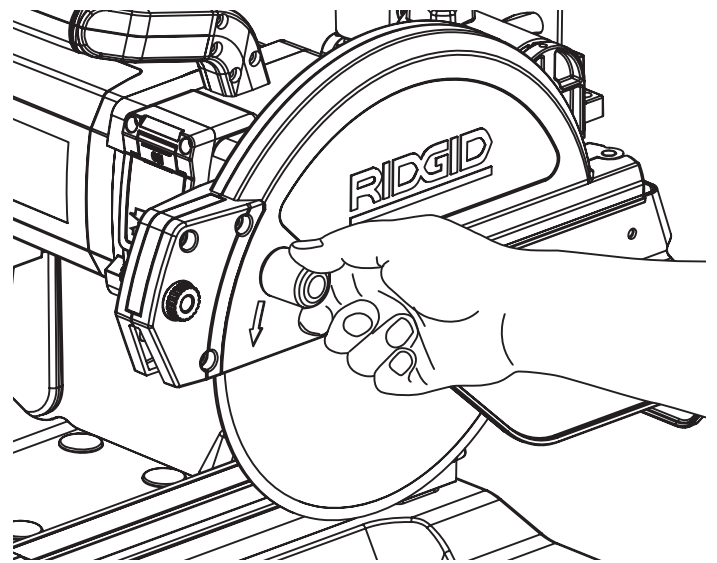

Fig. 25
6. Close the blade guard, and tighten the blade guard release knob (Fig. 25).